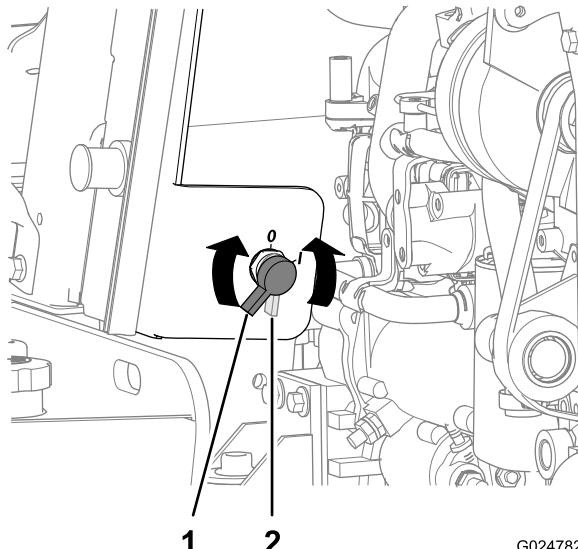

Figure 85
2. Rotate the battery-disconnect switch counterclockwise to the Off position (Figure 85).
8. Rotate the battery-disconnect switch clockwise to the On position (Figure 85).